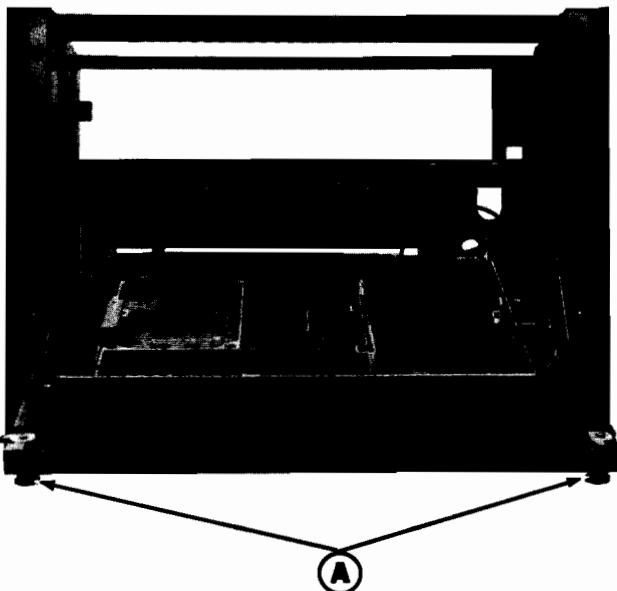

Figure 5 - Access to Exciter - Front View
1. Turn the two latching knobs (A) counter-clockwise to unlatch the Radio Panel Front Door. Refer to Figure 5.